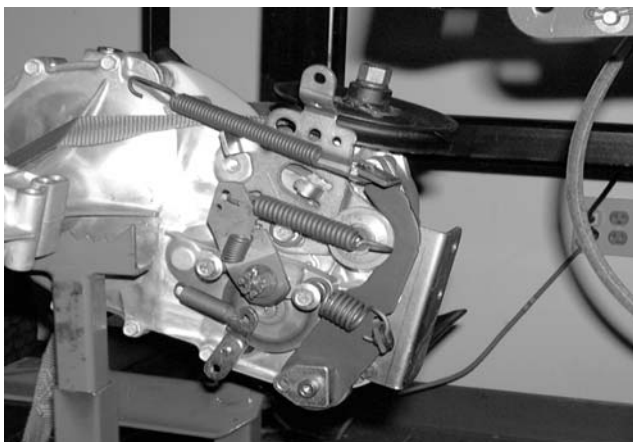

Figure 9-61
23. Secure the tractor frame. See Figure 9-61.